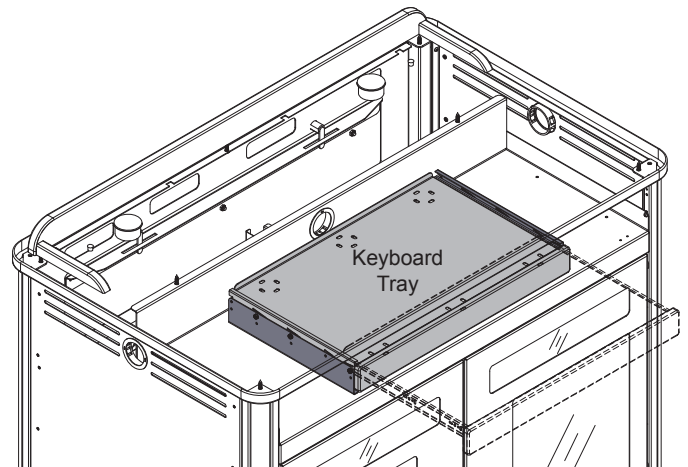

Figure 6
1. To flip, pull out the tray and locate the black plastic lever on each slide. **Figure 6.**